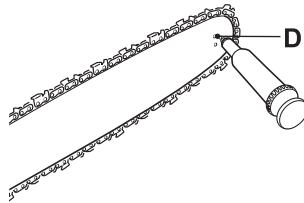

Fig.39
**NOTE:** It is not necessary to remove the saw chain (3) to lubricate the sprocket wheel(5). Lubrication can be done on the job.
2. Using a disposable lubricating gun, insert the nose of the needle into the lubrication hole (D) and inject grease until it appears on the outside edge of the sprocket(Fig. 39).